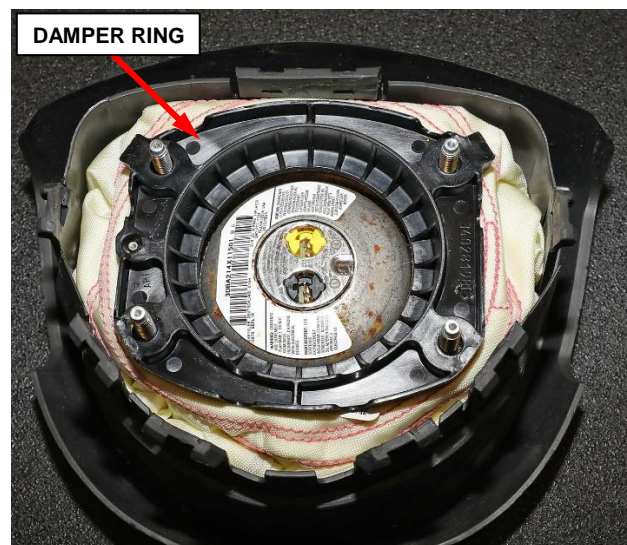

Figure 11 – Damper Ring (KA) Only
6. (KA) Dodge Nitro only may be equipped with a plastic damper ring. Remove the damper ring (Figure 11).